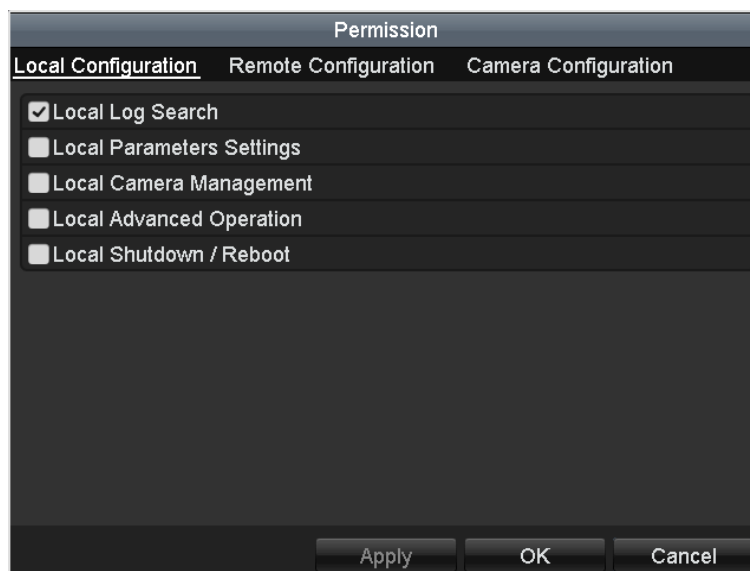

Figure 15-7 User Permission Settings Interface
- 1) Select the user from the list and then click to enter the **Permission Settings** interface, as shown in Figure 15-7.